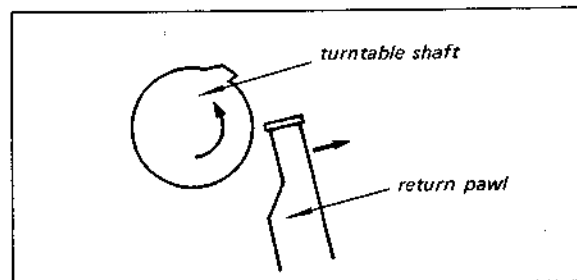

Fig. 3-17. Automatic return operation check (2)
3. Slowly rotate turntable shaft half a circle in counterclockwise direction shown in Fig. 3-17.